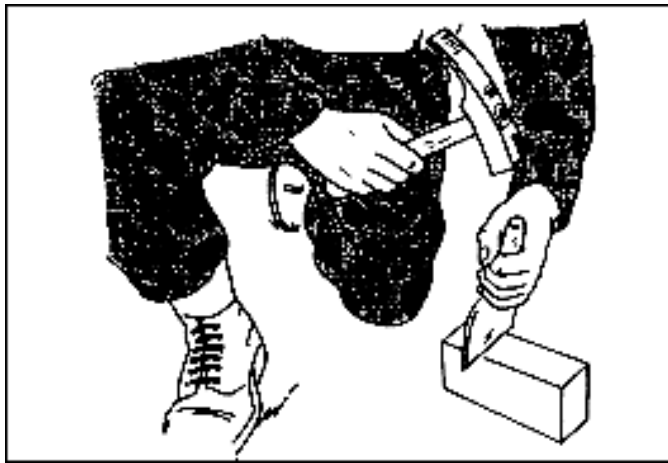

Figure 9-16. Cutting brick with a bolster
- Using a bolster or brick set. When you must cut a brick to exact line, use a bolster (see Figure 9-16) or brick set. The straight side of the tool's cutting edge should face both the part of the brick to be saved, and the bricklayer. One mason's hammer blow should break the brick. For an extremely hard brick, first cut it roughly using the brick hammer head, but leave enough brick to cut accurately with the brick set.